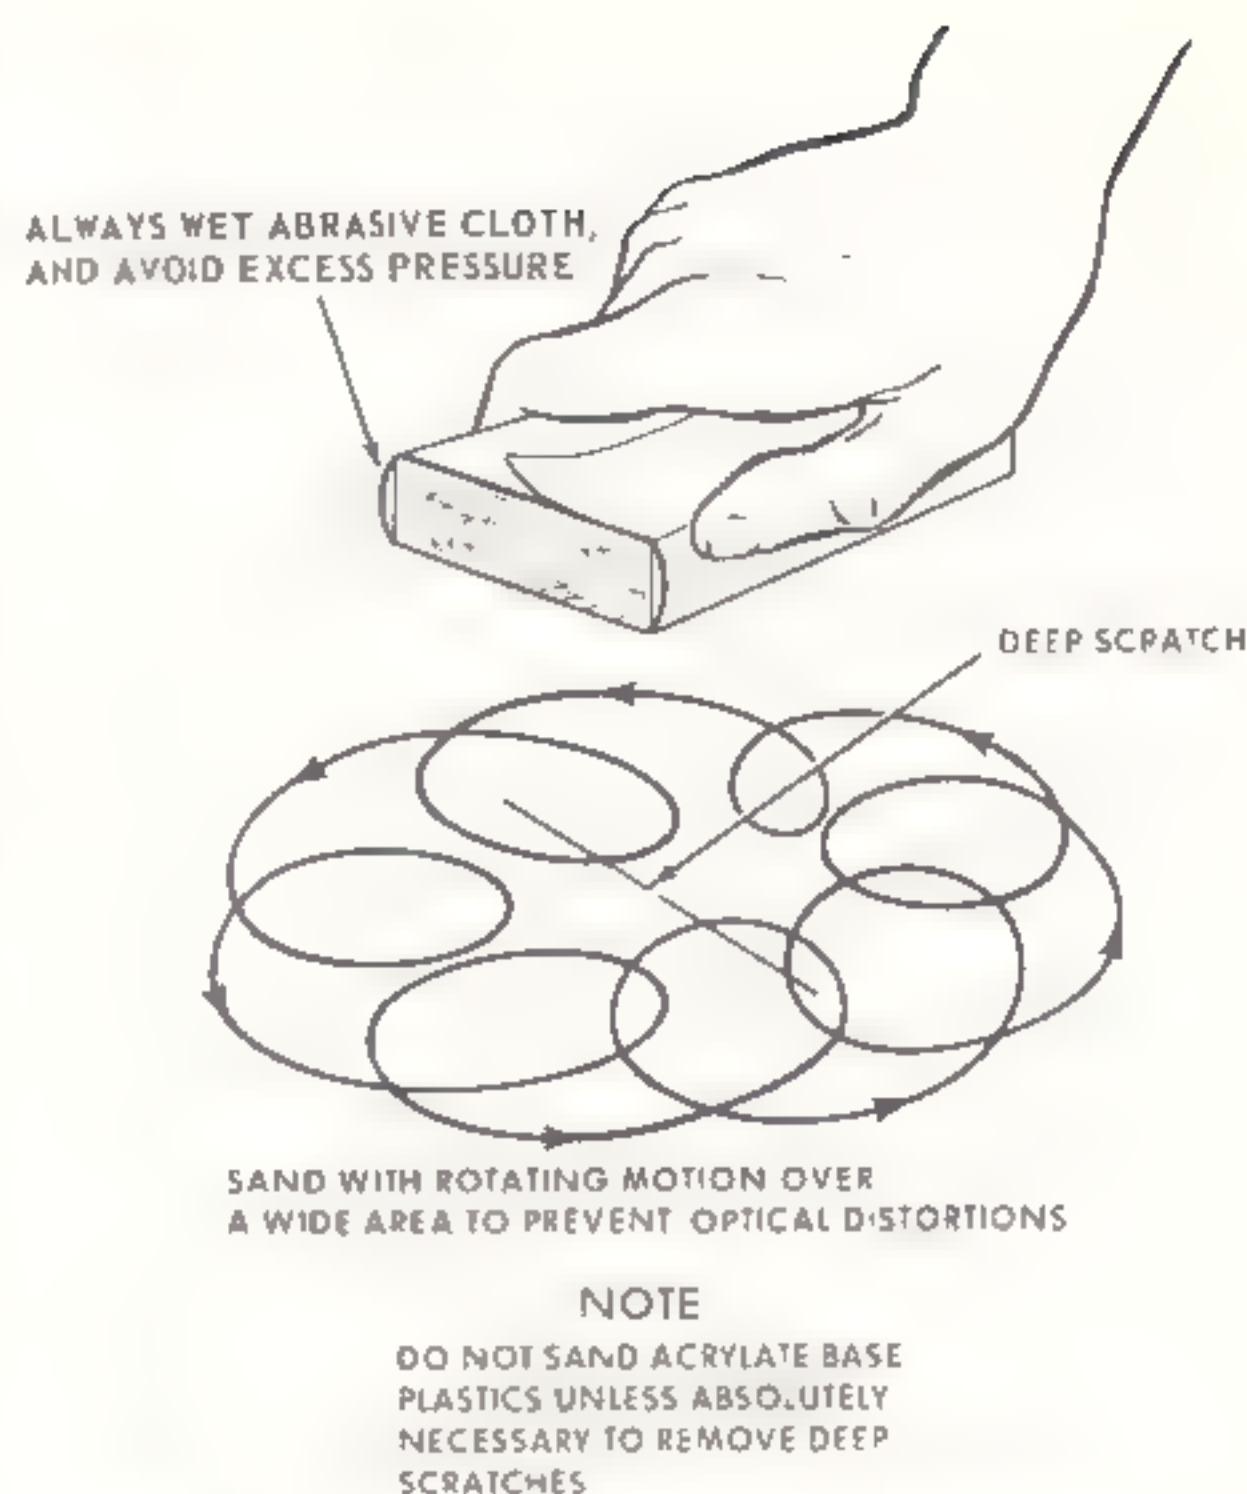

Figure 4-4. Proper sanding procedures for removing scratches
(1) *Hand sanding.* {a} Wrap No. 320 or finer cloth (item 38, table 1-8) around rubber pad or felt-covered wooden block. (See figure 4-4.)